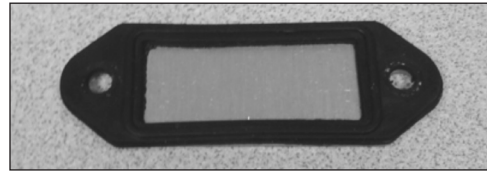

Figure 9.5 - Gasket placed on temperature probe cover
5. Once the new probe has been installed, place a new gasket onto the TC probe cover as shown in Figure 9.5 and attach the temperature probe cover by using a 1/8" Allen wrench to screw the two button head cap screws. Torque screws to 10-12 inch pounds.